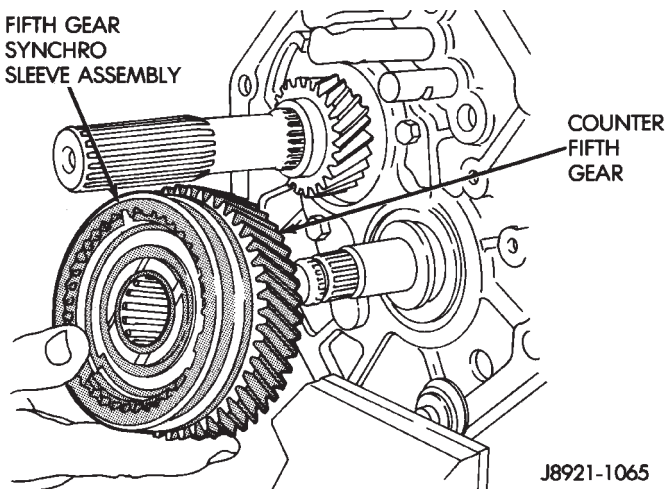

Fig. 98 Install Countershaft Fifth Gear Assembly
(29) Install countershaft fifth gear assembly onto countershaft (Fig. 98).